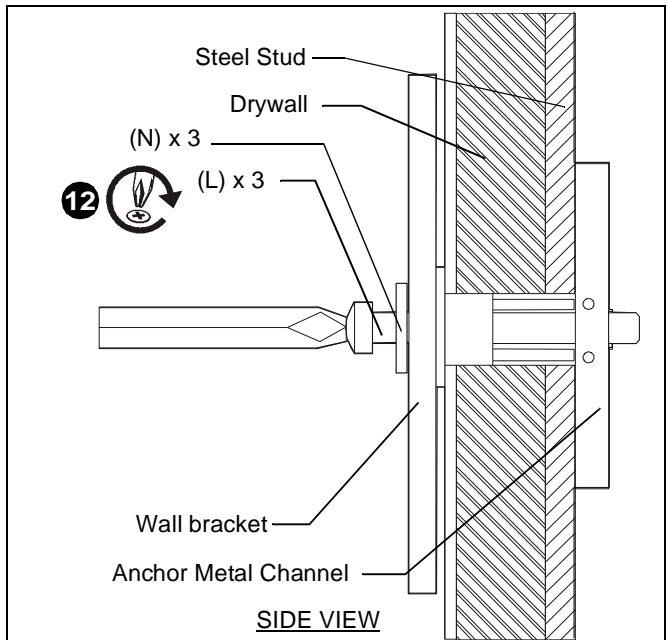

Figure 9
11. Place wall bracket over anchors and align mounting holes in display mount with holes in anchors. (See Figure 9)
12. Insert 1/4-20 x 1 3/4" Phillips pan head screws (L) through 1/4" washer (N), corresponding mounting hole on wall bracket and into anchor (M) and tighten until flush against mount. DO NOT overtighten! (See Figure 9)